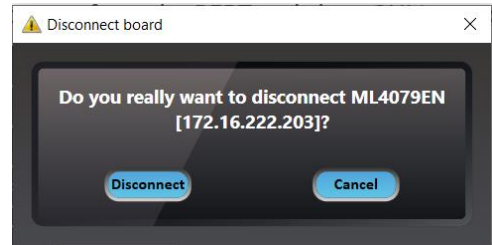

Figure 10: Disconnect Popup Window
- Close button: disconnect from the BERT and close GUI instance (Figure 10).